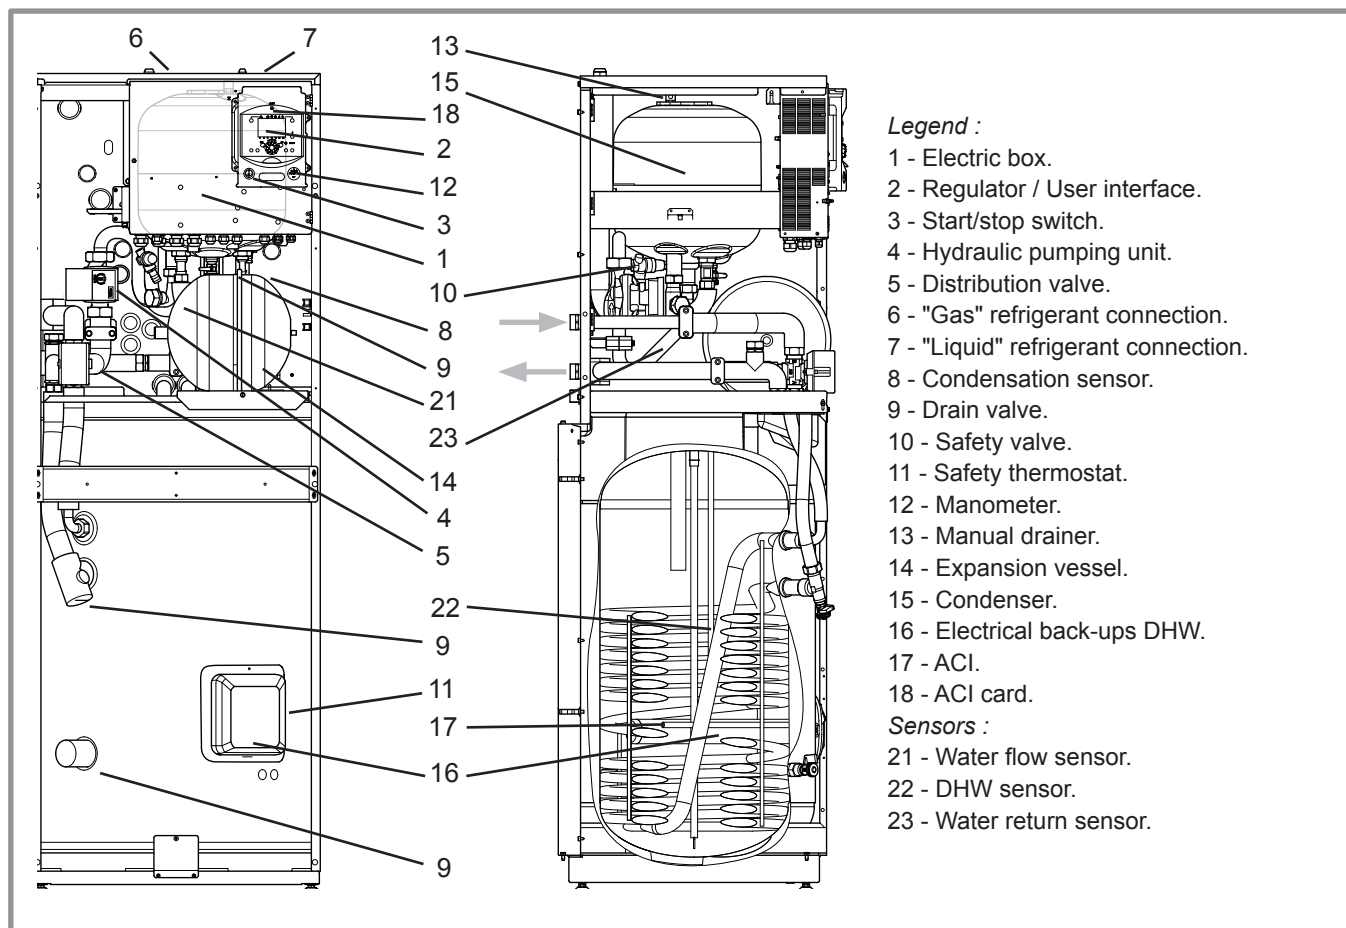

figure 7 - Hydraulic unit components
- In the condenser (ref. 15, figure 7) :